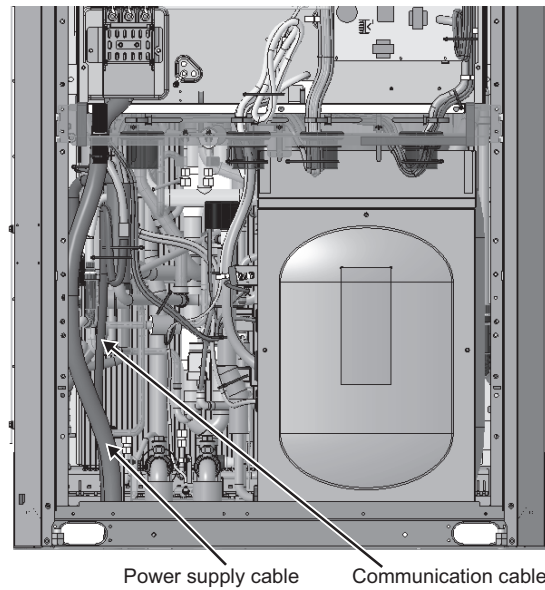

Fig. 3
- (3) Remove the power supply cable and the communication cable that connect the OC and OS casings from the control box on the OS side. (Fig. 3)